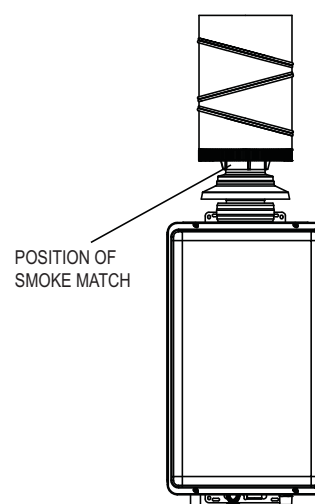

Figure 6 - Position of smoke match
- c) After 10 minutes of operation, place a smoke match or suitable smoke generating device under the *draught diverter* of the common flue insert terminal as shown in Figure 6. The smoke should get drawn into the common flue insert terminal at this point confirming there is no spillage of *combustion products* into the room from the flue system.